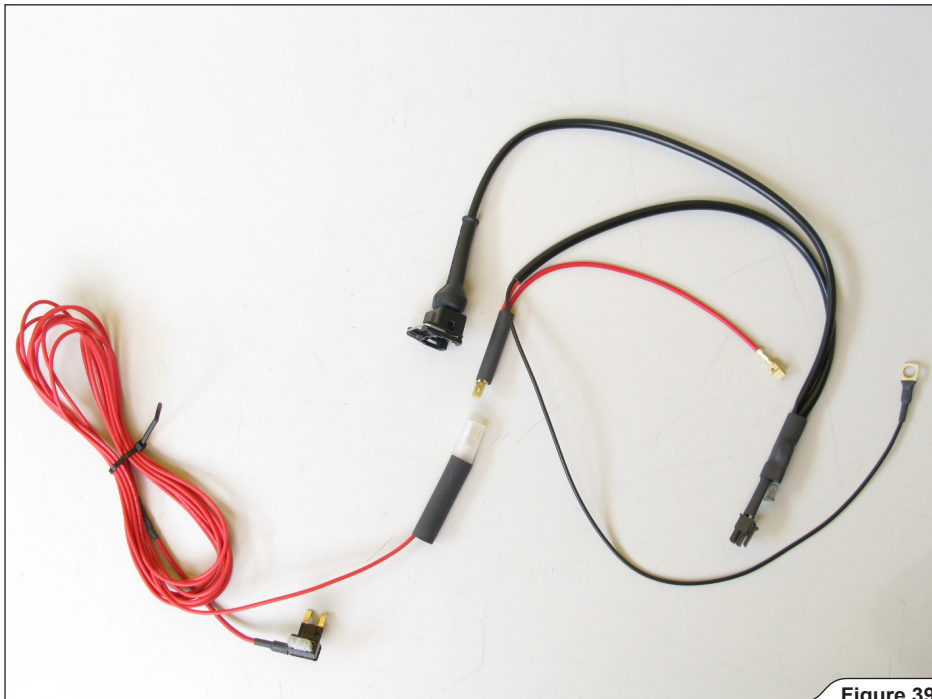

Figure 39
26. **For fuse box powered Wireless only:** transmitter wiring harness (**Figure 39**).